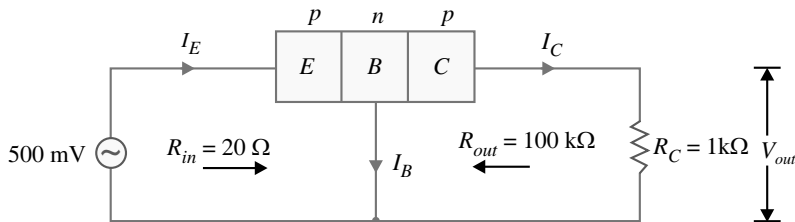

Fig. 6.9
**Solution.** \*\*Fig. 6.9 shows the conditions of the problem. Note that output resistance is very high as compared to input resistance. This is not surprising because input junction (base to emitter) of the transistor is forward biased while the output junction (base to collector) is reverse biased.